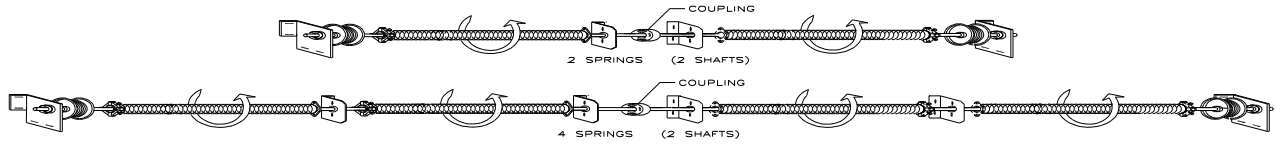

Figure 11
b. 2 SPRINGS (2 shafts, 2 intermediate brackets) 4 SPRINGS (2 shafts, 4 intermediate brackets) (Figure 11, next page)